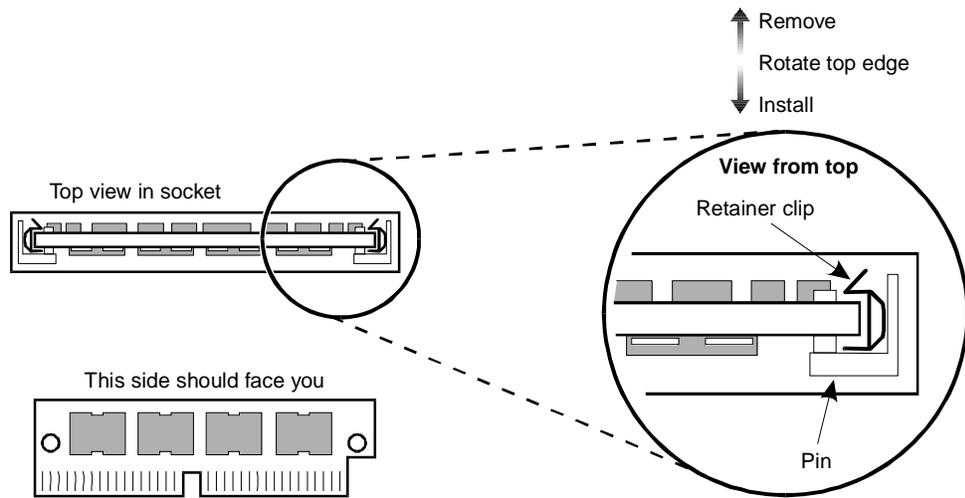

Figure 10-12. Removing or Installing a Memory SIMM
8. To remove the 16 MB SIMM, gently release the metal snap locks or retainer clip at the edge of the SIMM connectors. See Figure 10-12.